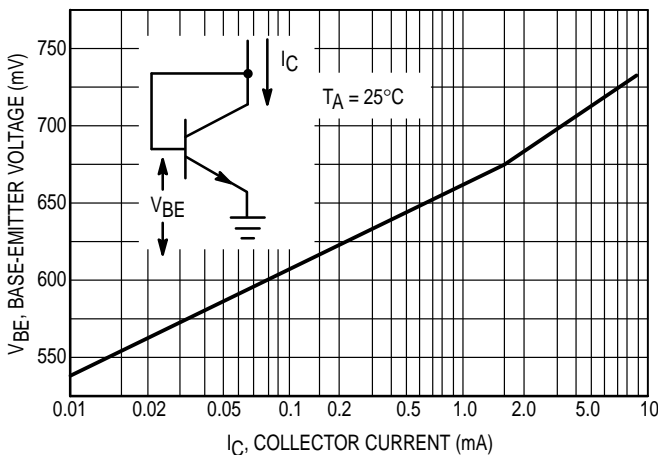

Figure 2. Base-Emitter Voltage versus Collector-Emitter Current
- For maximum temperature accuracy, IC should not exceed 2 mA. (See Figure 2)